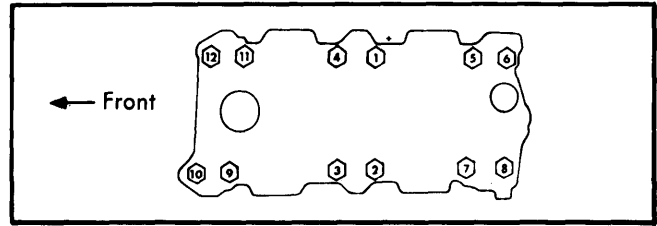

Fig. 1 Intake Manifold Tightening Sequence
**Installation** - Clean gasket and seal surfaces on manifold, cylinder heads and block. Install end seals on block. Install side gaskets on cylinder heads, using sealing compound around water passages. Install manifold being careful not to displace gaskets and seals. Install manifold bolts and tighten in sequence. See Fig. 1.